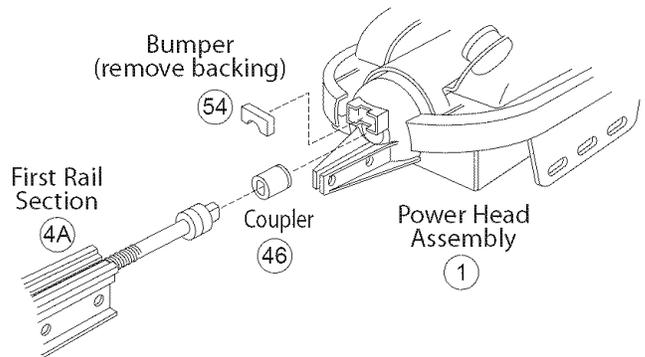

Figure 9 Install Bumper, Coupler and 1st Rail Section
- B Install Bumper (**Figure 9**).
- C Install Coupler on Motor Shaft (**Figure 9**).